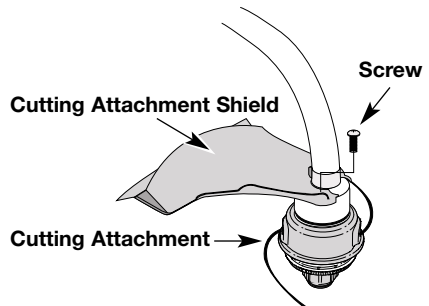

Fig. 8
- Push the cutting attachment shield down to the top of the cutting attachment assembly. Rotate the cutting attachment shield so that it points to the engine, and the holes in the cutting attachment shield line up with the holes in the top of the cutting attachment assembly (Fig. 8).
- Install the four (4) screws with a small Phillips screwdriver (Fig. 8).